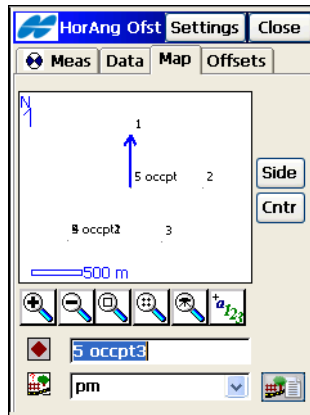

Figure 11-12. Horizontal Angle Offset – Map Tab
- The *Map* tab (Figure 11-12) on the **Horizontal Angle Offset** screen contains the graphic view and duplicated controls from the *Measurement* tab. For the details on viewing and customizing properties, see “Viewing Map” on page 15-1.